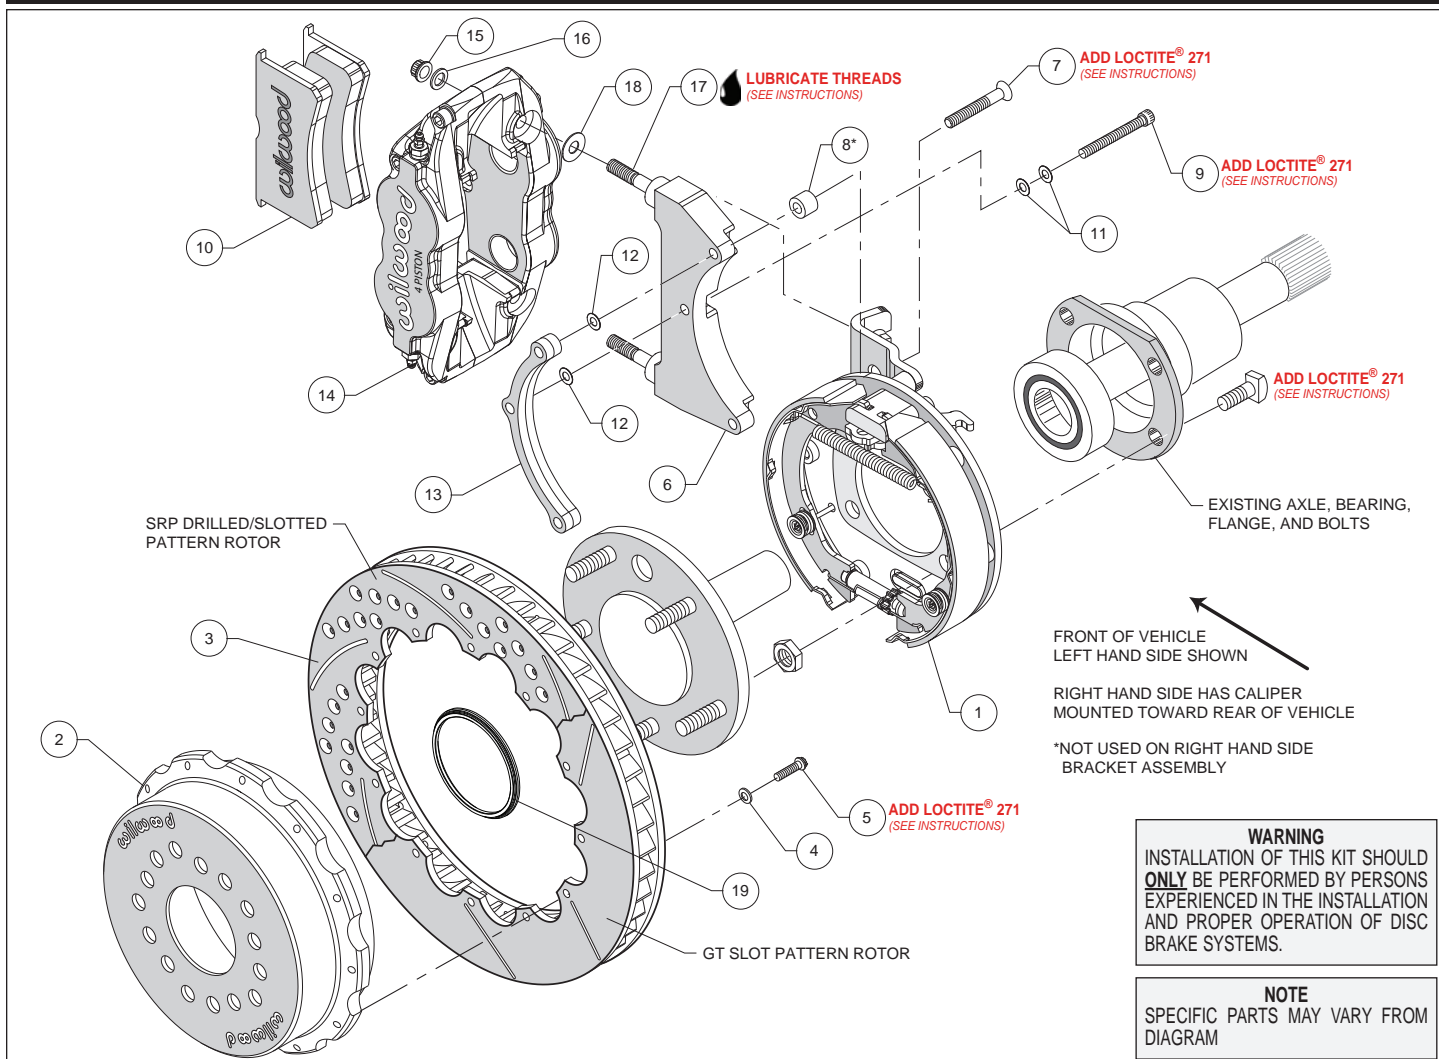
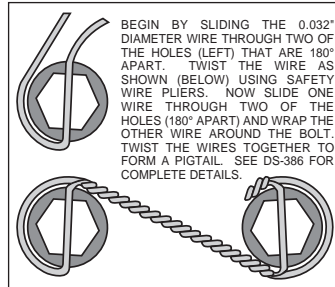

Figure 1. Typical Installation Configuration
Figure 4. Safety Wire Diagram
Assembly Instructions (numbers in parenthesis refer to the parts list and Figure 1 on the preceding pages): **CAUTION:** All mounting bolts must fully engage threaded holes.
- Orient the bracket assembly (1), as shown in Figure 1, and mount to the axle housing flange using the Original Equipment Manufacturer (OEM) bolts and nuts, Figure 1. Ensure that the bracket assembly backing plate fits flush against the axle housing flange. Apply red *Loctite*® 271 to the OEM bolt threads and torque to OEM specifications.
- **NOTE:** Please reference the caution statement at the beginning of the assembly instructions. The caliper mounting bracket assembly (6) should initially be installed with clean, dry threads on the mounting bolts. **NOTE:** The caliper bracket must tighten squarely against the back side of the bracket kit assembly (1). The ends of the bolts should not exceed inside face of insert. Later, after the caliper alignment has been checked, the mount bolts will be secured using red *Loctite*® 271.
Left Hand Side - Orient the left hand bracket (6) and 3-hole spacer (13) as shown in Figure 1 and Photo 1, and install using bolts (9) and two washers (11) in the middle and lower hole locations, Figure 1. Use bolt (7) in the upper hole with spacer (8) placed between the bracket (6) and the cable stop bracket, Photo 1. Initially place one .015" shim washer (12) on each of the three bolts between the bracket and 3-hole spacer, Figure 1. Temporarily tighten the mounting bolts.
•Orient the rotor (3) and the hat (2) as shown in Figure 1 and Photo 3. Attach rotor to hat using bolts (5) and washers (4). Using an alternating sequence, apply red *Loctite*® 271 to the threads, and torque to 155 **in-lbs**. For an added measure of security, the bolts may be safety wired using standard 0.032 inch diameter stainless steel safety wire as shown in Figure 4. Please refer to Wilwood's data sheet DS-386 (available at www.wilwood.com/Pdf/DataSheets/ds386.pdf) for complete safety wire installation instructions.
•Slide the rotor registration adapter (19) onto the axle register on the axle flange with the smaller O.D. facing toward the rotor/hat (2/3), Photo 4. Align the correct hole pattern in the hat with the stud pattern on the axle flange and slide into place, Figure 1 and Photo 5. **NOTE:** The rotor/hat must fit flush against the axle flange or excessive rotor run out may result. Install three lug nuts (finger tight) to keep the rotor/hat assembly in place while continuing with the installation. **NOTE:** Some OEM and after market axles come with stud sizes larger than 0.50" diameter. Verify stud size and have a qualified machine shop drill the bolt circle of the hat/rotor to the correct stud size, if necessary.
•Lubricate the caliper mounting studs (17) with lightweight oil. Initially place one .035" thick shim (18) on each stud as shown in Figure 1 and Photo 6. Mount the caliper (14) onto the bracket (6) using lock nuts (15) and washers (16), Figure 1. Temporarily tighten the lock nuts and view the rotor through the top opening of the caliper. The rotor should be centered in the caliper, Photo 7. If not, adjust by adding or subtracting shims (12) between the bracket (6) and the 3-hole spacer (13). Always use the same amount of shims on each of the three mounting bolts. Once the caliper alignment is correct, remove the bracket mounting bolts (7 and 9) one at a time, apply red *Loctite*® 271 to the threads, and torque to 180 **in-lb**.